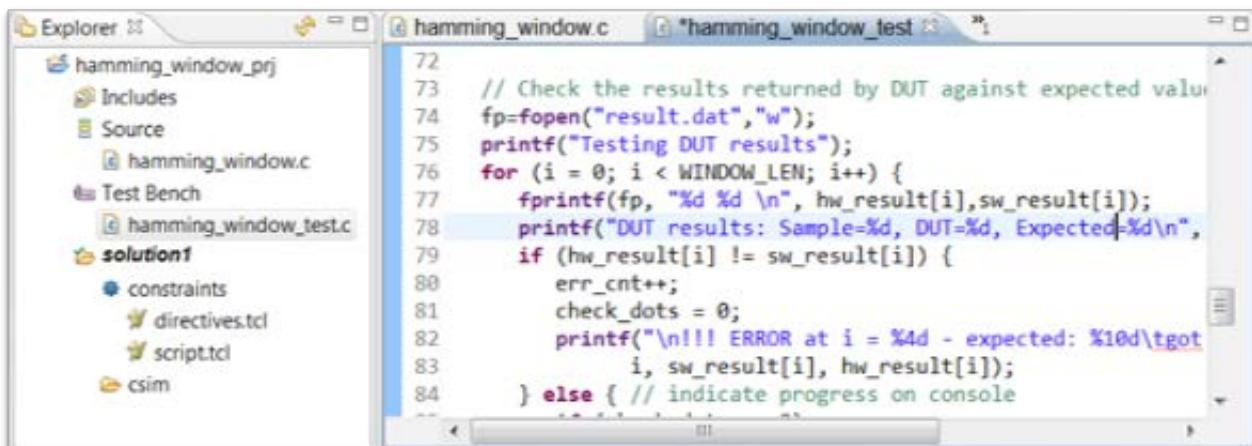

Figure 48 Enable Printing of the Results
6. Scroll to line 78 and remove the comments in front of the printf statement (as shown in Figure 48).